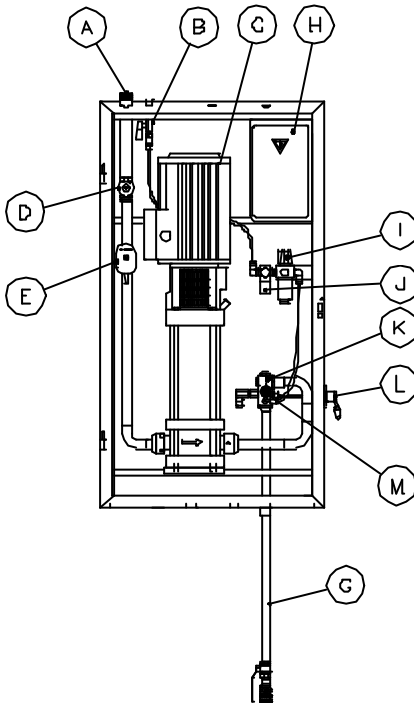

Figure 5.1
- c) The connection for water should be made at the top of the station (A on figure 5.1 - 5.3).
- a) Remove the screw cap from outlet (D on figure 5.1 - 5.3).
- a) The connection to the station is made with a union to ease dismantling. A ¼" closing valve is mounted on all satellites (B on figure 5.1 - 5.3).
The setting is made by lifting and turning the switch on the manometer (E figure 5.1 - 5.3). The air pressure can be read on the manometer. It should be approx. 6 bar. Normally the setting should be made before the cleaning personal start using the station. The setting should be according to references on the P3-Topax product.
Before setting the concentration, you should be aware that the figures on the dosing buttons are not in %. The setting of the dosing is done on the dosing screw (G-RIGHT for detergent and G-LEFT for sanitation figure 5.1 - 5.3).